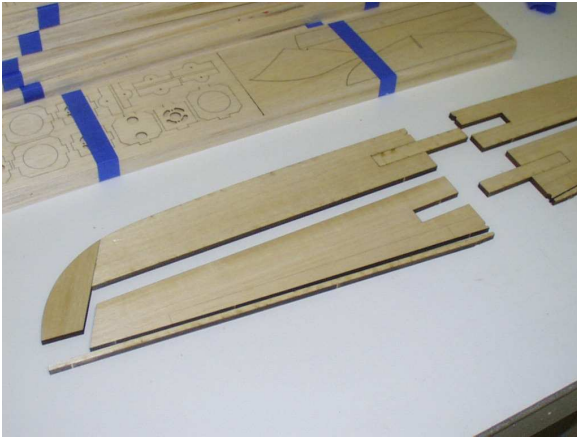

Figure 3.1: Dry fitting of parts
- Carefully examine all 10 parts used to build the wing and remove any excess balsa notches with the knife (Figure 3.1)